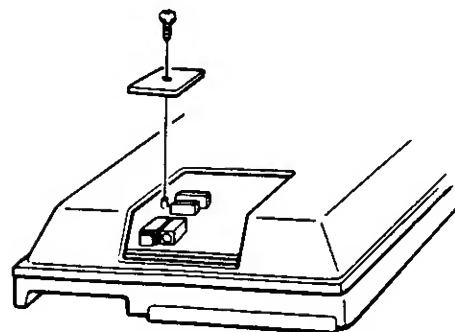

Figure 200-56 ADA-Z Unit Mounting Screw
Connection of the ADA-Z unit: (See Figures 200-56 and 200-57)
- f. Mount ADA-Z unit into Key Telephone using screw provided with component side down. (See Figure 200-56).